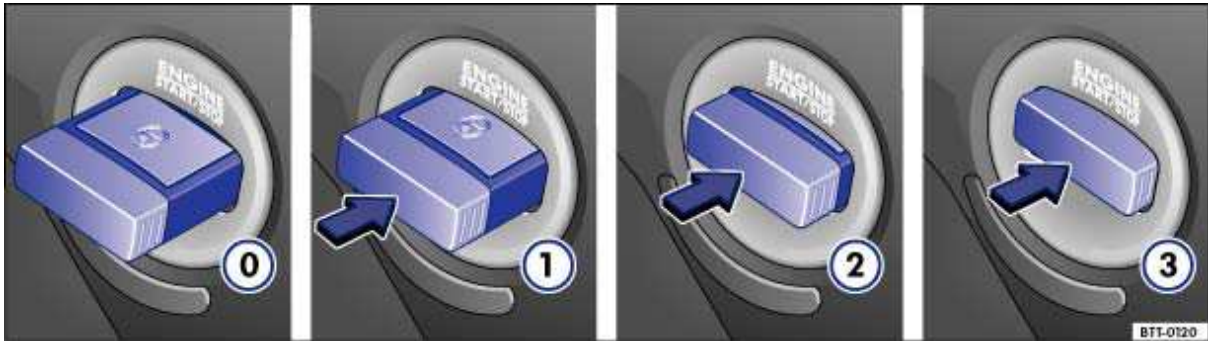

Fig. 111 In the ignition switch: Vehicle key positions.
Vehicle key position ⇒ fig. 111
2.	Shift the transmission into Neutral (N) or Park (P) (automatic), or into Neutral (manual only).
3.	Push the vehicle key to position ⇒ fig. 111 (3) – do not depress the accelerator pedal.
3.	Automatic transmission: Shift the transmission into Park (P).
5.	Push the vehicle key fully into the ignition switch and release. The vehicle key springs back to position ⇒ fig. 111 (1) .